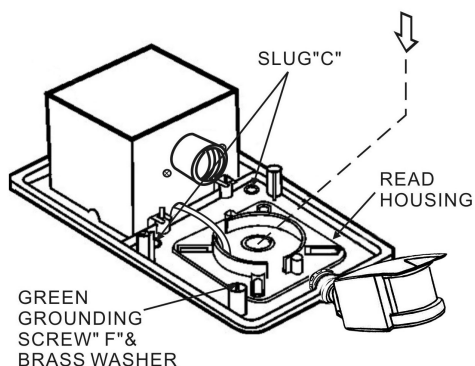

Fig.3
- 3. MOUNTING WITH TWO (2) BOLTS (Fig. 3)**